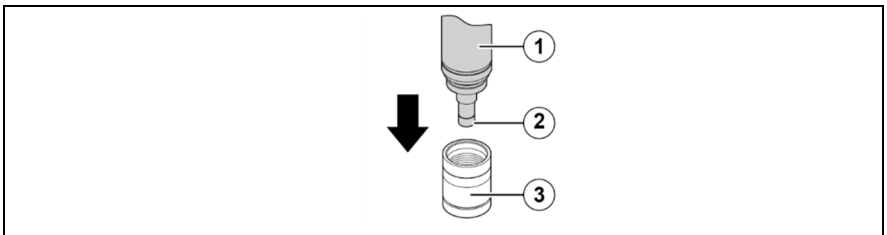

Fig. 7: Place the sensor body on the membrane cap
- ▶ When screwing on the membrane cap make sure that the valve is not closed off (see Fig. 7, page 18).